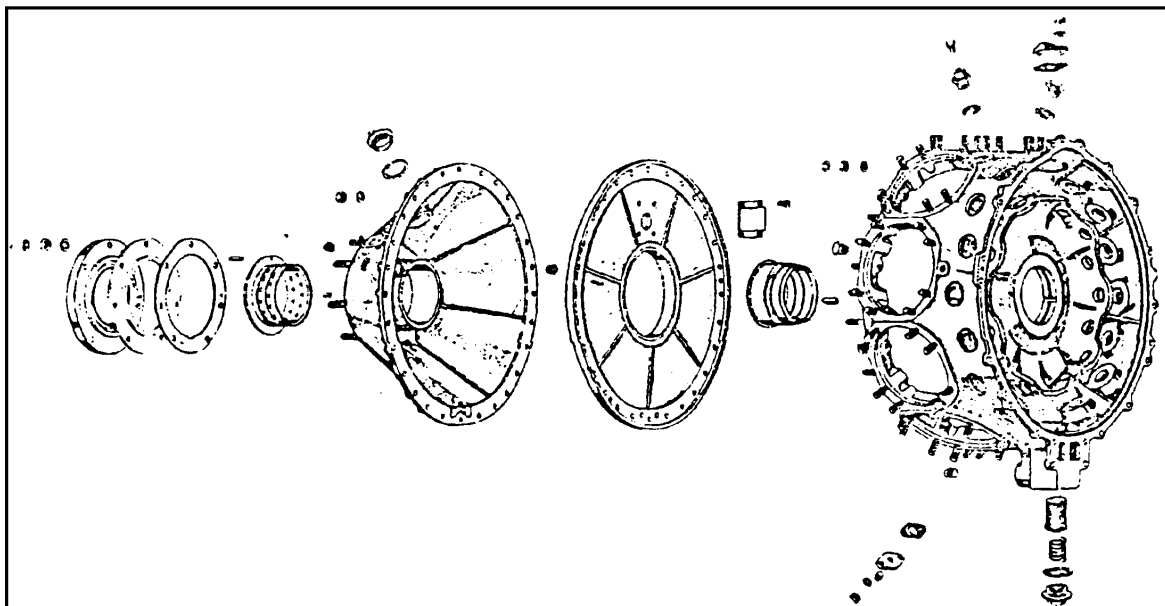

FIGURE 2—Crankcase Front Section (Without provision for mounting propeller governor), Main Bearing Support, and Main Section
**CRANKCASE** The crankcase is composed of five aluminum alloy castings, secured together through substantial flanges. The five sections are referred to as the front section, the front main bearing support, the main section, the diffuser section, and the rear section. (Refer to figures 2 and 3.)